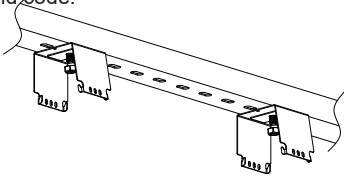

Figure 5
1. Mount the bracket on the rail or ceiling (Figure 5).